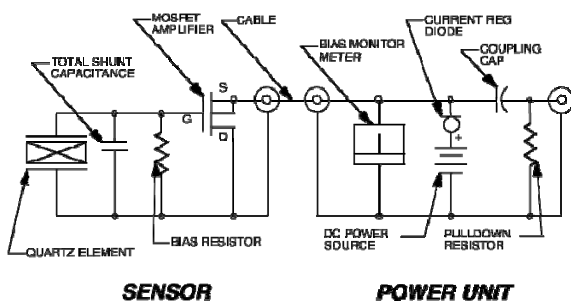

Figure 2 System Schematic
The IC amplifier operates from constant current type power units (many types are available from Dytran) and may be supplied with from 2 to 20 mA of current, depending upon the length of cable being driven by the sensor. The current is supplied to the source terminal of the sensor amplifier (see Fig. 2) and this point is normally biased at approximately +10 Volts DC.
Referring to Fig. 2, the resistor from the gate of the MOSFET to ground serves to bias the amplifier at its proper operating point and it also establishes the low frequency response of the sensor by establishing the discharge time constant (TC) of the accelerometer. This resistor and the total shunt capacitance C across it (the crystal, gate and stray capacitance) set the TC, which, in turn, sets the low frequency response as follows:
Referring to Fig. 2, most Dytran power units feature a DC voltmeter that reads this bias voltage from the sensor and as such, serves as a very useful system trouble shooting tool.